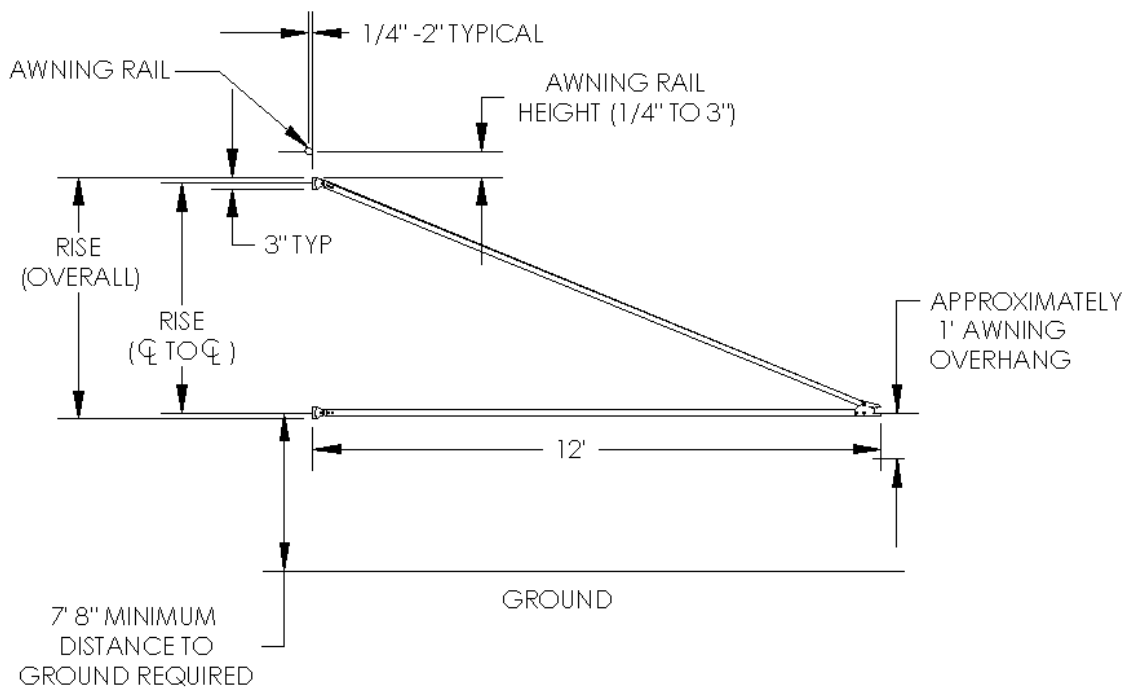

Figure 1 - Typical frame assembly
3. Review your Installation and/or Approval drawing to determine the spacing (Rise) between the upper and lower mounting brackets (both centerline to centerline and overall dimensions are provided) **Fig. 1**